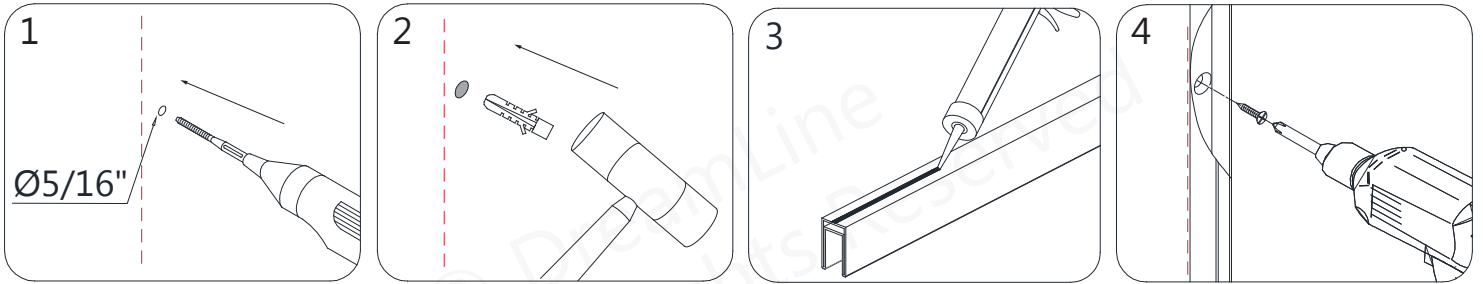

Fig 15
15. Remove the U-Channel and drill the holes in the wall using a $\text{Ø}5/16''$ drill bit and insert the $\text{Ø}5/16''$ **Wall Anchors (#16)** into the holes. Apply silicone into the screw holes and to the back surface of the U-Channel. Attach the **U-Channel (#01)** to the wall using the **ST4.0×40 Pan Head Screws (#17)**. (Fig 15)